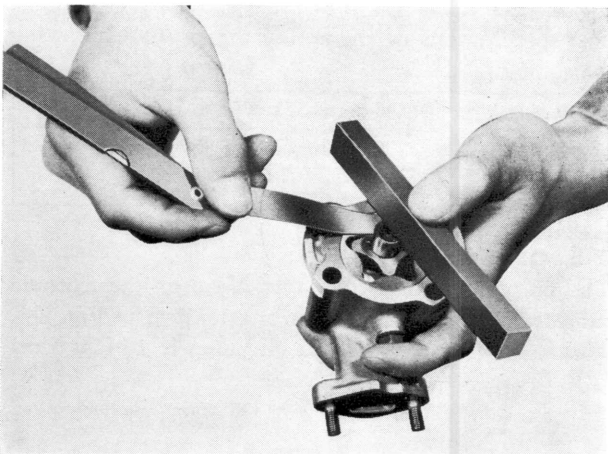

Fig. 2-7 Checking end float of rotors
3. Inspect the end float of the rotor with the feeler gauge as shown in Fig. 2-7. If the end float is too large, make corrections by scraping the pump body. The standard value of the end float is 0.1~0.2mm. (0.004~0.008 in.).